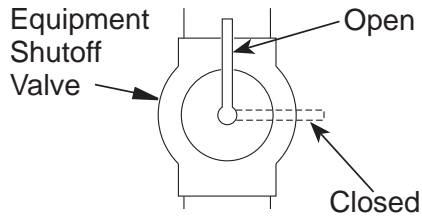

Figure 14 - Equipment Shutoff Valve
1. Close equipment shutoff valve (see **Figure 14, Page 16**).
1. Open equipment shutoff valve (see Figure 14).